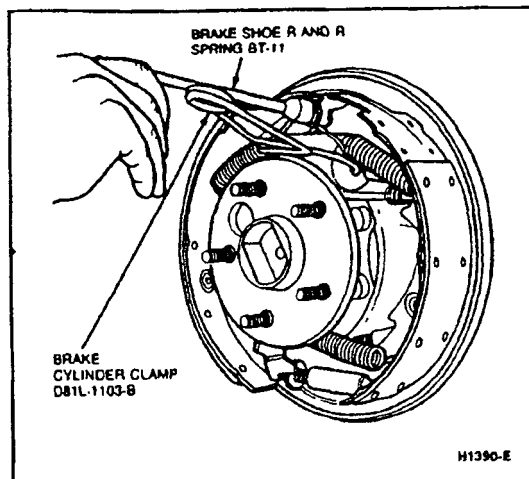

FIG. 5 Retracting Spring—Removal
1. With the wheel and drum removed, install Brake Cylinder Clamp D81L-1103-B or equivalent over the ends of the brake cylinder (Fig. 5).
2. Remove the shoe-to-anchor springs with Brake Shoe R and R Spring BT-11 or equivalent (Fig. 5), and unhook the cable eye from the anchor pin.